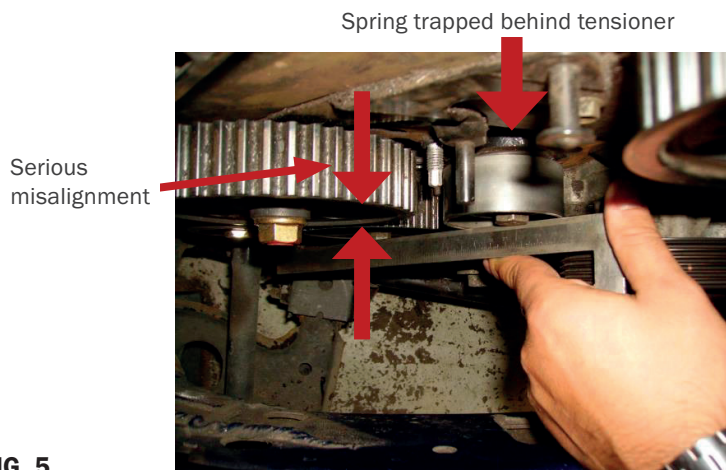

FIG. 6
4. Install the new coil spring tensioner (spring over stud, bolt hand tight); make sure tensioner is sitting perfectly against engine block. If not, the spring could end up between the tensioner and the engine block, creating a serious tensioner misalignment (see Fig. 6).
3. Install the new coil spring tensioner (spring over stud, bolt hand tight); make sure the tensioner is sitting perfectly against the engine block. If not, the spring could end up between the tensioner and the engine block, creating a serious tensioner misalignment (see Fig. 6).